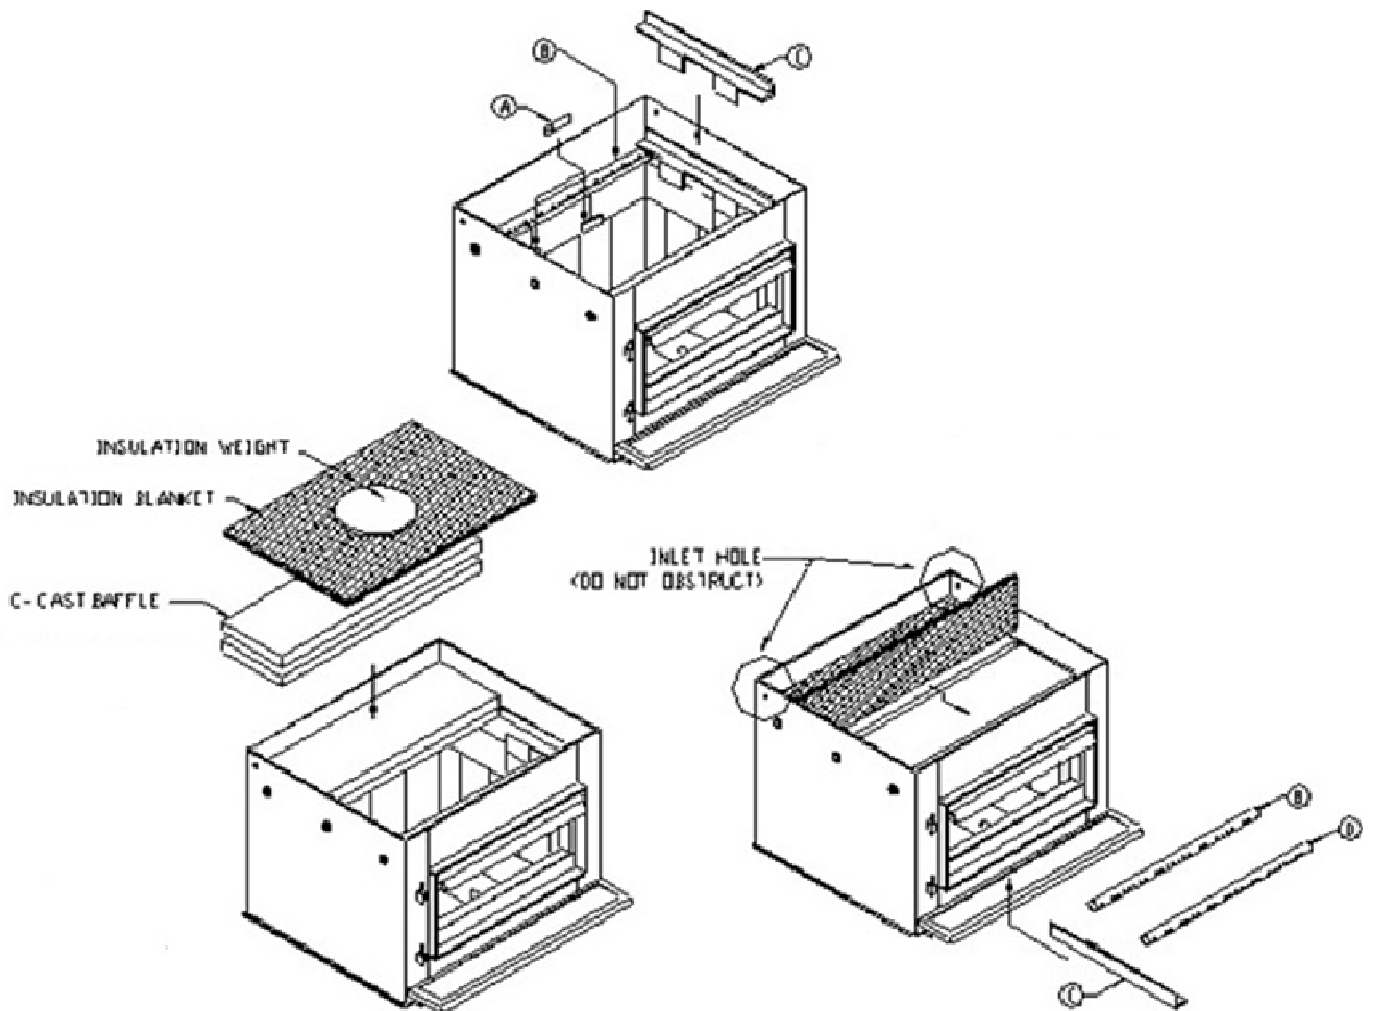

Figure 2.10a
- 2- Install the stainless steel brick retainers (C) on the rear centre bricks intersections.
- 3- Install the first side baffle support (C) on one side of the firebox as shown in figure 2.10a.
- 4- Put the c-cast boards on top of the rear secondary air tube. The c-cast boards must be placed next to each other (not stacked). Put the insulation blanket on top of the c-cast boards as shown in figure 2.10a. Place the insulation weight at the top back centre of the insulation blanket lined up with the flue outlet.
- 5- Install the second side baffle support (D) on the other side of the firebox.